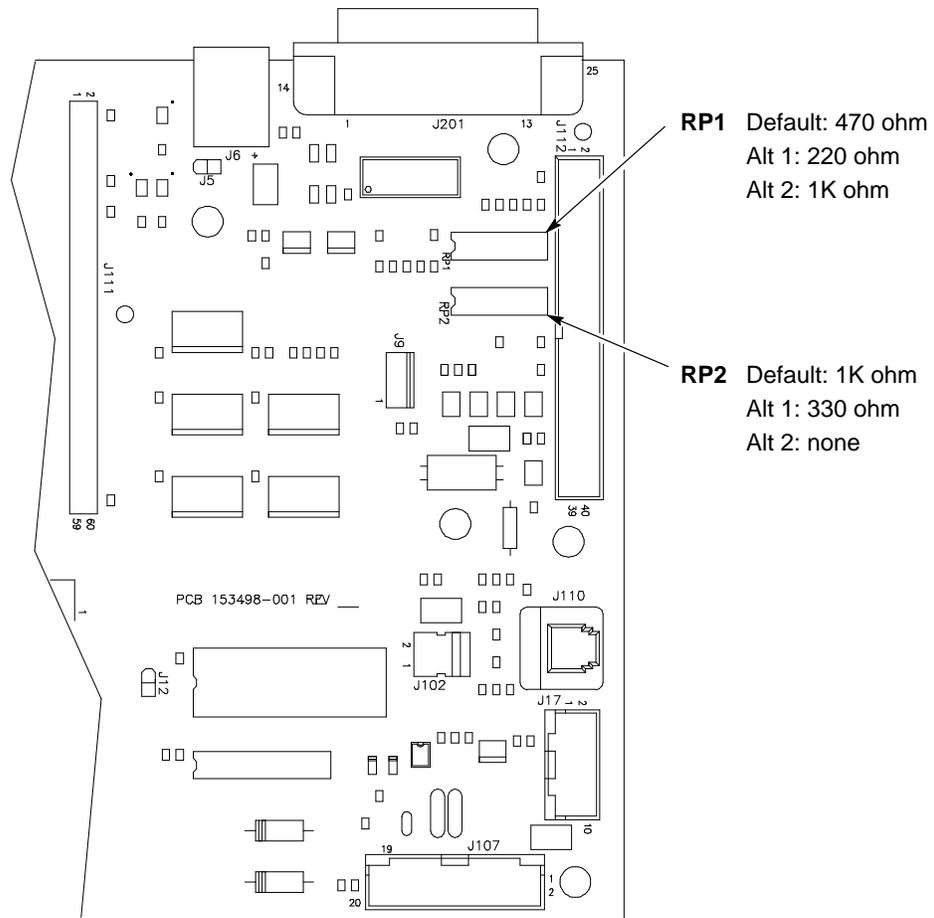

Figure 5-5. Resistors, Terminating, Removal/Installation
For parallel interface configurations, the printer is equipped with 470 ohm pull-up terminating resistors and 1K ohm pull-down terminating resistors on the controller board. These are suitable for most applications. (See Figure 5-5.)
2. Locate the terminating resistor packs. (See Figure 5-5.)
1. Using a chip installation tool, install the resistor packs in the correct socket. (See Figure 5-5.)